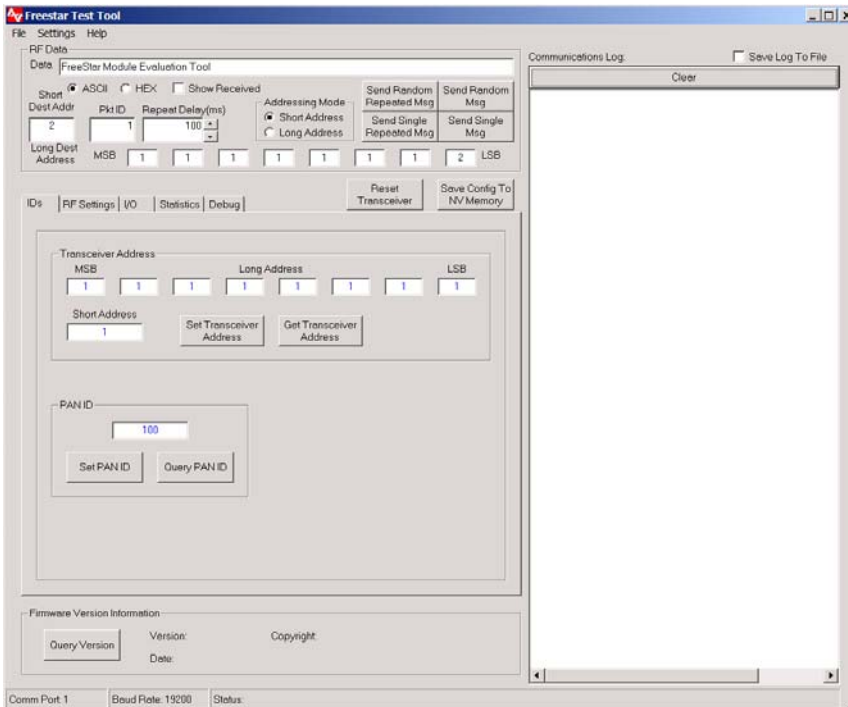

Figure 5: Evaluation Software- Main Screen
The Wi.Freestar evaluation software was designed to give the developer an ability to quickly test the features built into the Wi.Freestar module. The evaluation software is described in the following sections. A screen shot of the evaluation software is shown in Figure 5. Developers please refer to chapter 5 for information on building custom applications for use on the Wi.Freestar module.
* Upper left portion of the Test Tool as shown in Figure 5.
* See Figure 5.